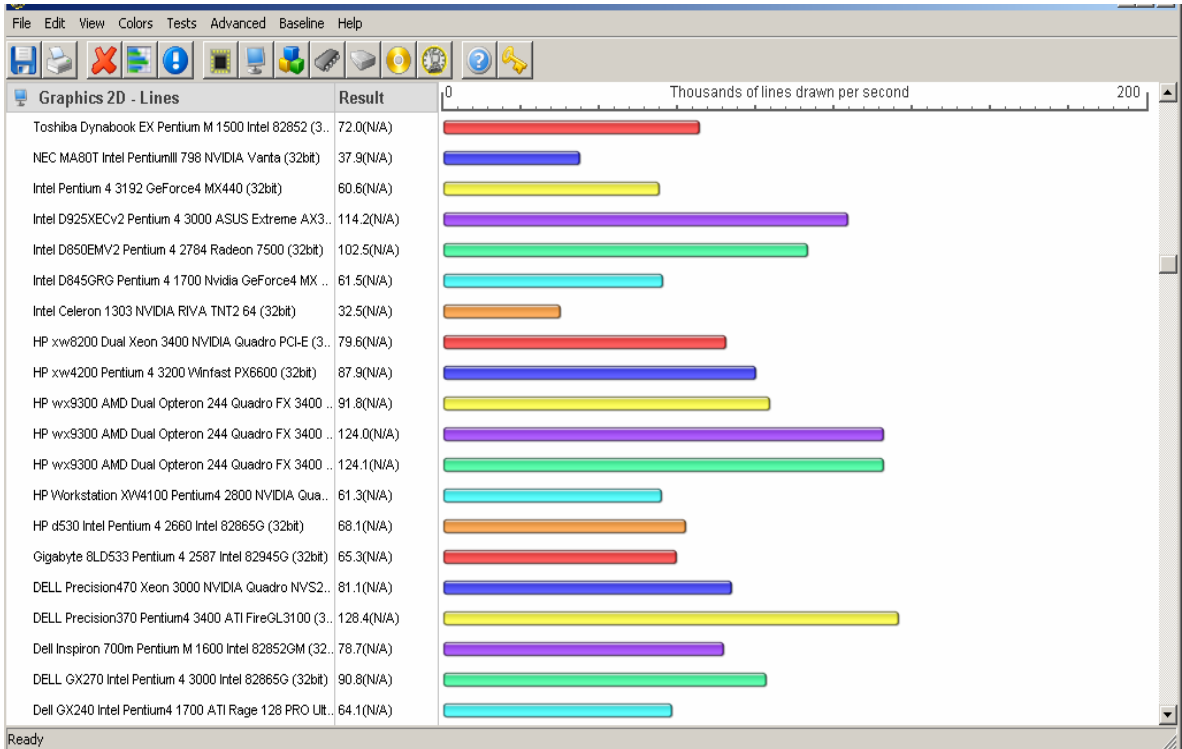
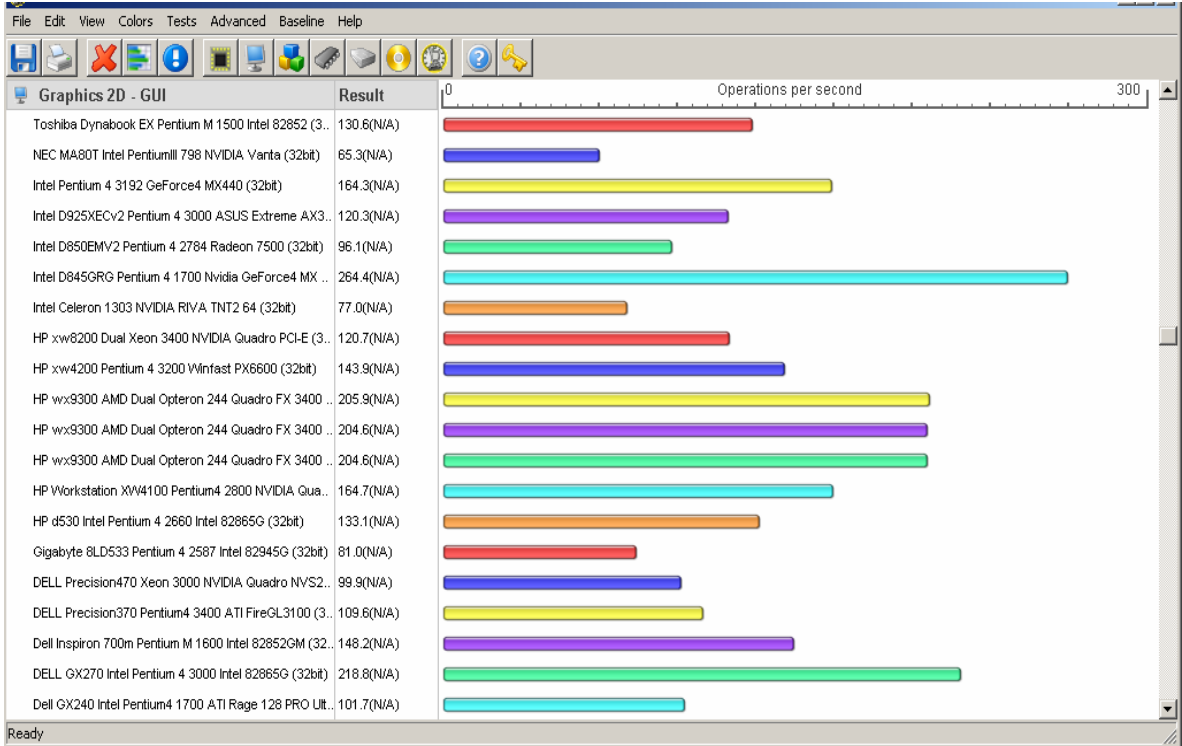

Figure 8.9 CPU PERFORMANCE FOR GRAPHICS 2D-LINES
Figure 8.13 CPU PERFORMANCE FOR GRAPHICS 2D-GUI
**GUI:** - Test the performance of the graphics card and the Windows Display settings for interacting with the Graphical User Interface. The test includes the performance measurement of Common GUI controls: treeview, listview, sliders and edit boxes, as well as window movement and resizing. Figure 8.9 to Figure 8.13 shows 2D graphics test suit performance chart and comparison for different types of CPUs.